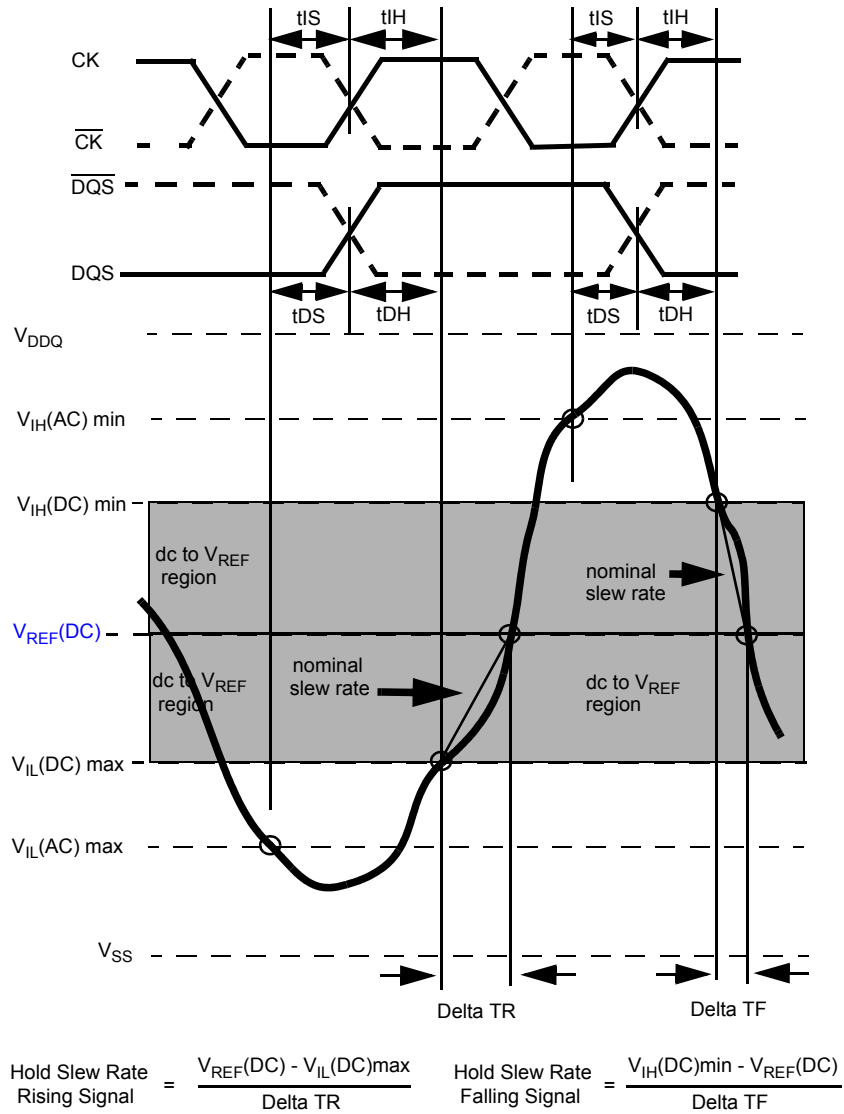
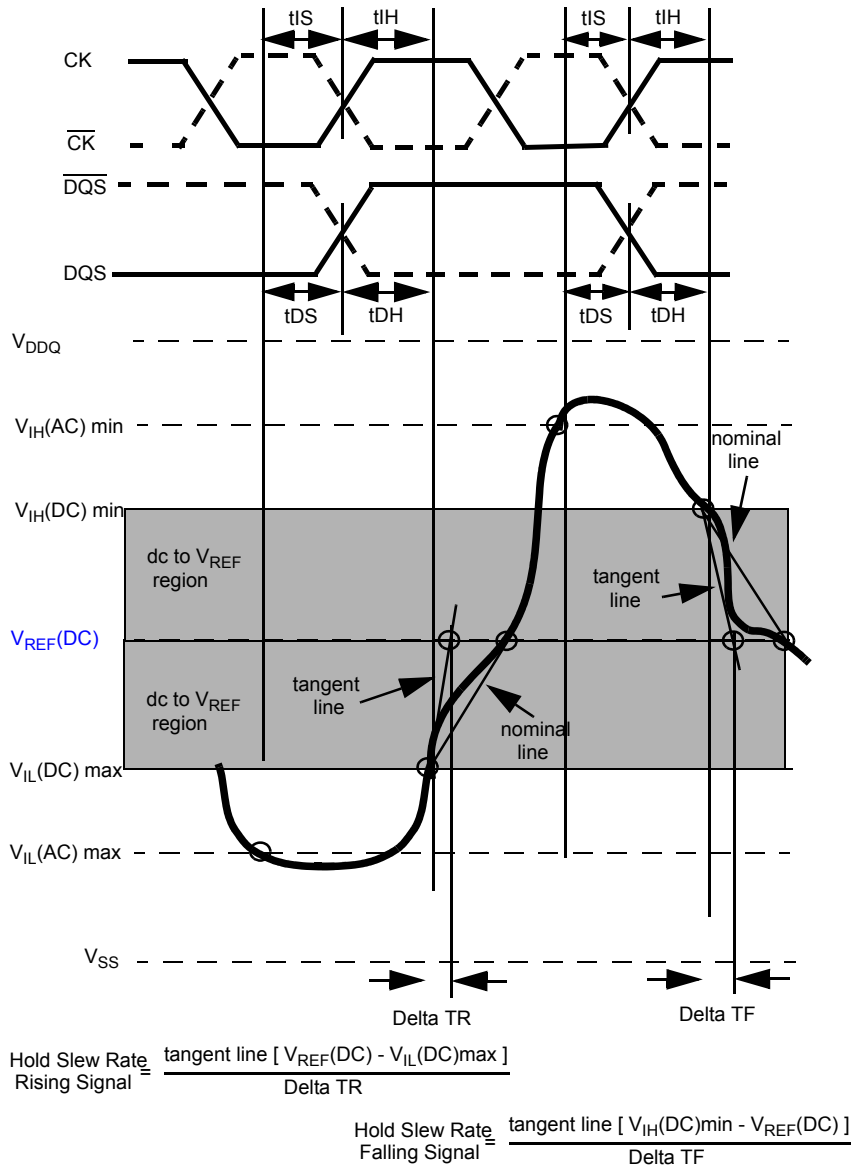

Figure 26 - Illustration of nominal slew rate for hold time t_{DH} (for DQ with respect to strobe) and t_{IH} (for ADD/CMD with respect to clock).
Figure 28 - Illustration of tangent line for hold time t_{DH} (for DQ with respect to strobe) and t_{IH} (for ADD/CMD with respect to clock)
Hold (tDH) nominal slew rate for a falling signal is defined as the slew rate between the last crossing of VIH(DC)min and the first crossing of VREF(DC) (see Figure 26). If the actual signal is always later than the nominal slew rate line between shaded 'dc level to VREF(DC) region', use nominal slew rate for derating value. If the actual signal is earlier than the nominal slew rate line anywhere between shaded 'dc to VREF(DC) region', the slew rate of a tangent line to the actual signal from the dc level to VREF(DC) level is used for derating value (see Figure 28).